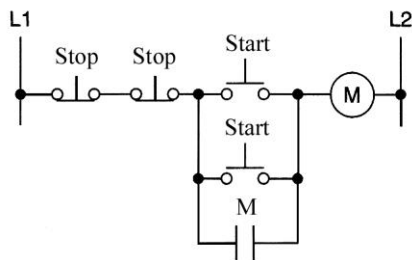

Figure 6-28 Hardwired circuit for assignment 4.
4) The hardwired multiple start/stop motor control circuit shown in Figure 6-28 can be programmed using a PLC. Prepare an I/O connection diagram and ladder logic program for the circuit. Enter the program into the PLC, and prove its operation.